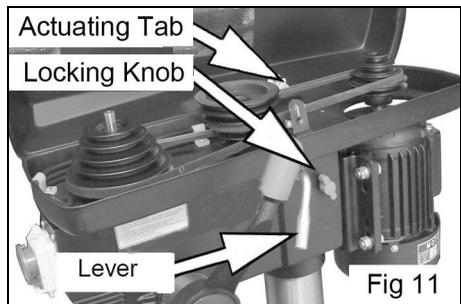

Fig 11
1. Open the cover and slacken the belt tension locking knobs on each side of the machine (Fig 11).
When closing the cover, check the operation of the micro-switch. It is important that it operates as soon as the cover is opened in order to prevent the drill press from operating whilst the cover is open. If necessary, adjust the position of the switch actuating tab shown in Fig 11, to ensure correct operation.